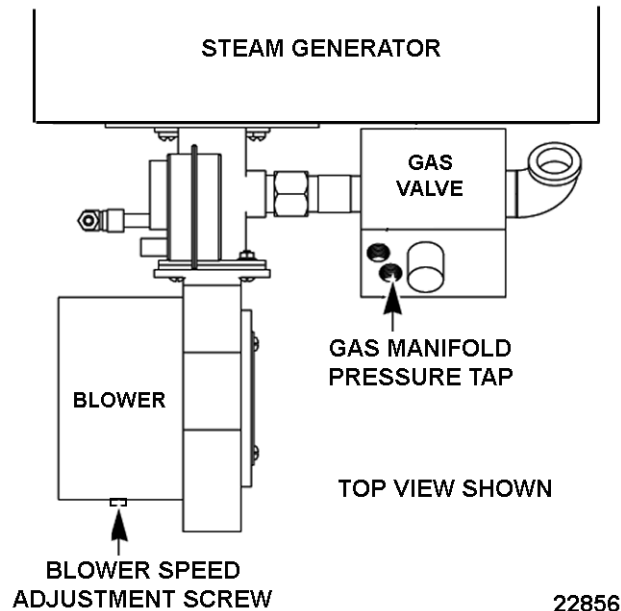

Fig. 45
3. Remove plug on the outlet side of gas valve and install manometer. Refer to Fig. 45.